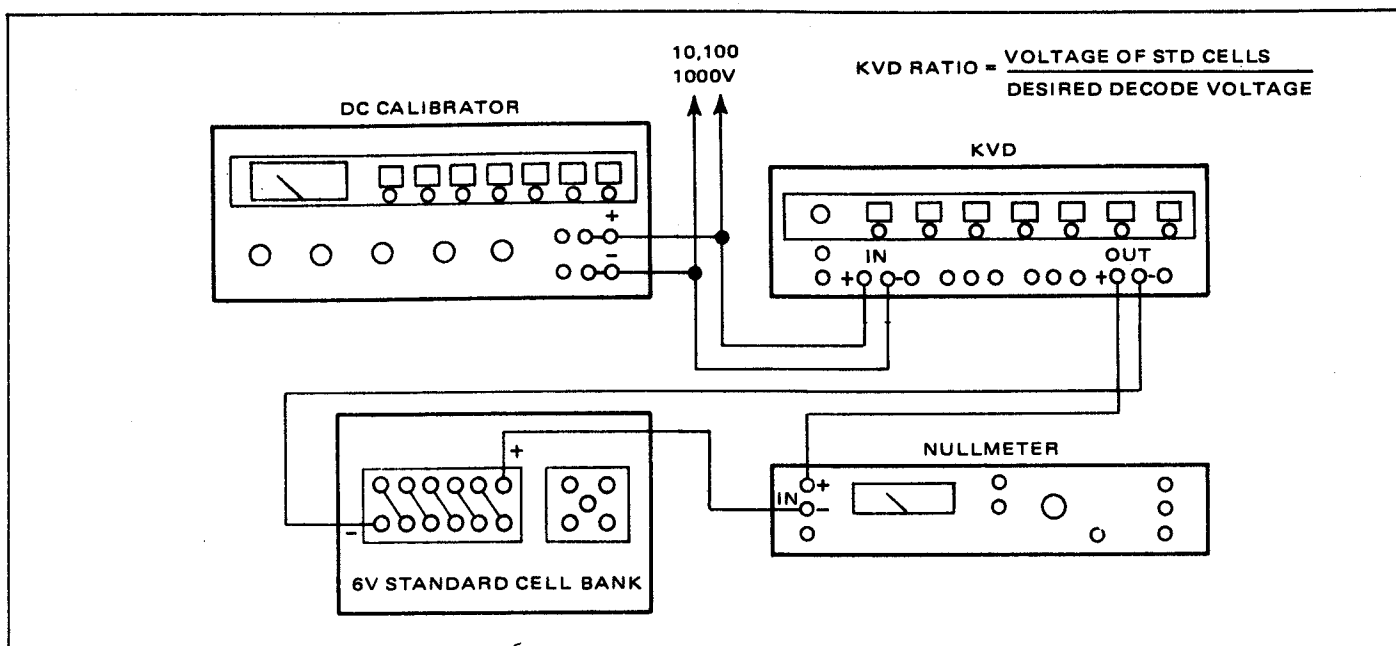

Figure 5.1 - 10V, 100V and 1000V Sources
5.3.4.2 The 10V, 100V, and 1000V range sources are derived by the method illustrated in figure 5.1. The setup is as follows: